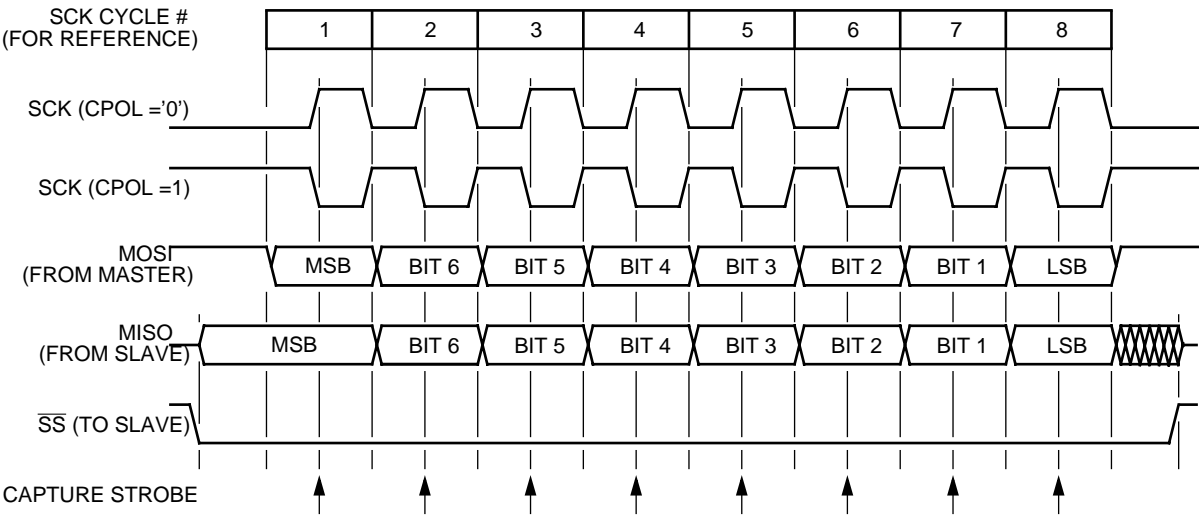

Figure 4. Transmission format (CPHA = '0')
**Figure 4** shows an SPI transmission in which CPHA is '0'. The figure should not be used as a replacement for data sheet parametric information. Two waveforms are shown for SCK: one for CPOL = '0' and another for CPOL = '1'. The diagram may be interpreted as a master or slave timing diagram since the serial clock (SCK), master in/slave out (MISO), and master out/slave in (MOSI) pins are directly connected between the master and the slave. The MISO signal is the output from the slave, and the MOSI signal is the output from the master. The  $\overline{SS}$  line is the slave select input to the slave. The slave SPI drives its MISO output only when its slave select input ( $\overline{SS}$ ) is at '0', so that only the selected slave drives to the master. The  $\overline{SS}$  pin of the master is not shown but is assumed to be inactive. The  $\overline{SS}$  pin of the master must be
The overflow flag (OVRF) becomes set if the SPI receive data register still has unread data from a previous transmission when the capture strobe of bit 1 of the next transmission occurs. See Figure 4 and Figure 6. If an overflow occurs, the data being received is not transferred to the receive data register so that the unread data can still be read. Therefore, an overflow error always indicates the loss of data.